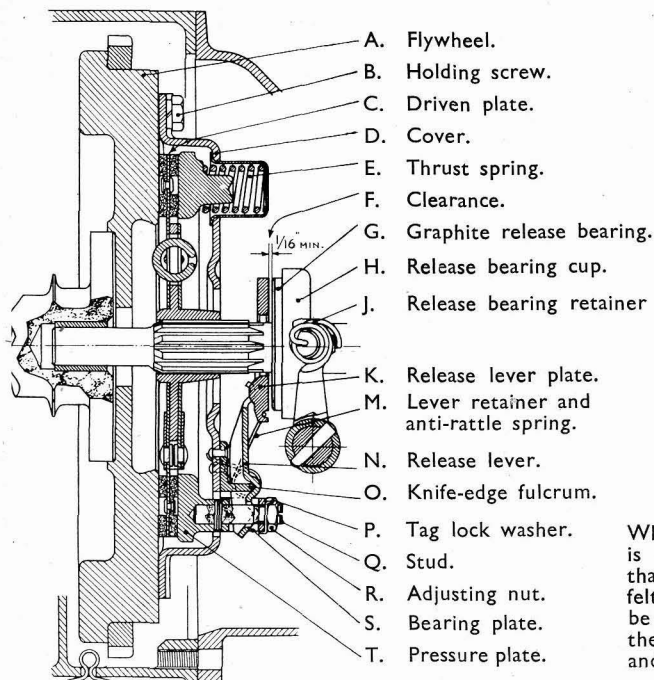
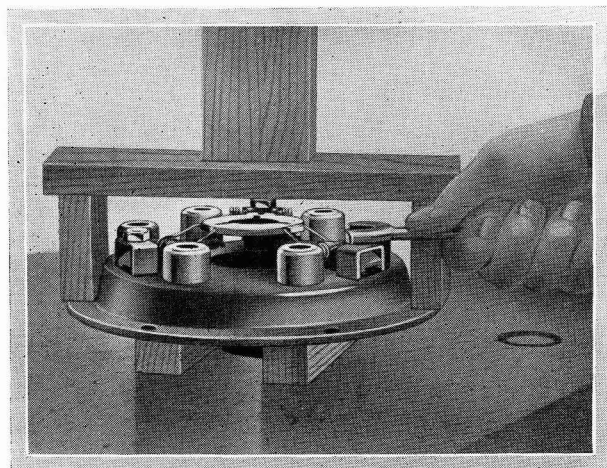

Fig. 45.
Fig. 47.
The general construction may be followed by reference to Fig. 45, and the following description :—
The free pedal movement, measured at the pedal pad, should preferably be $\frac{3}{4}$ in. (19 mm.), and the clearance between the stop on the clutch withdrawal lever and that on the clutch housing should not be more than $\frac{21}{64}$ in. (8.3 mm.) when the pedal is held forward lightly so that the carbon release bearing is just in contact with the release lever plate. (Fig. 45.)
First straighten the bent up lobes of the tag lock washers "P" (Fig. 45), then place the cover on the bed of the press with the pressure plate resting on wood blocks so arranged that the cover is left free to move down. Place three blocks of wood to form a bridge, the legs of which should rest on the outer rim of the clutch cover as shown in Fig. 47.
ing nuts "R" (Fig. 45) and then slowly release the pressure to prevent the thrust springs from flying out.
7. The release lever plate "K" should then be assembled to the release levers, taking care that the projecting portions engage properly in the slots formed in the release lever ends. Finally the retaining springs "M" should be fitted into the grooves formed in the release lever plate, as indicated in Fig. 45.